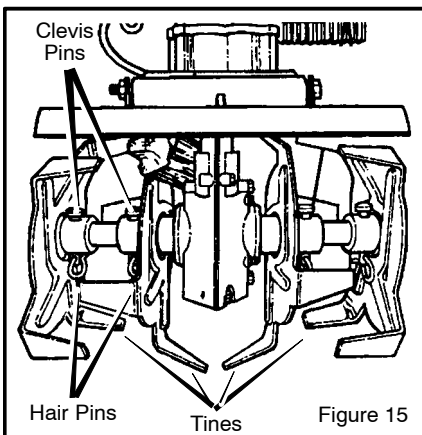

Figure 15
3. While wearing gloves, remove the **hair-pins** and **clevis pins** that secure the tine assemblies to the shaft (see Figure 15). Remove the **tines** from one side of the unit.
4. Mount the outside tine on the tine shaft and fasten with the **clevis pin** and **hairpin** (see Figure 15).